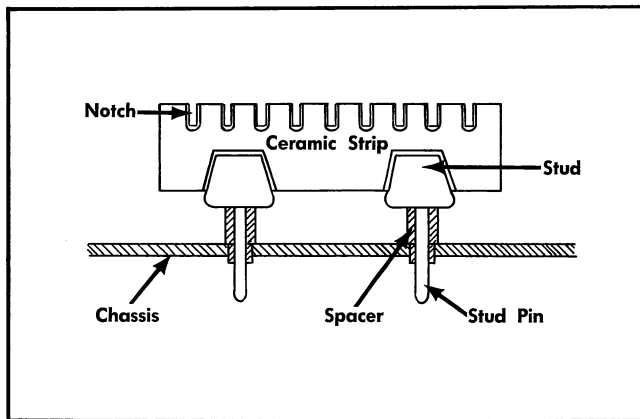

Fig. 4-1. Ceramic terminal strip assembly.
**Ceramic Terminal Strip Replacement.** A complete ceramic terminal strip assembly is shown in Fig. 4-1. Replacement strips (including studs) and spacers are supplied under separate part numbers. The old spacers may be re-used if they are not damaged.